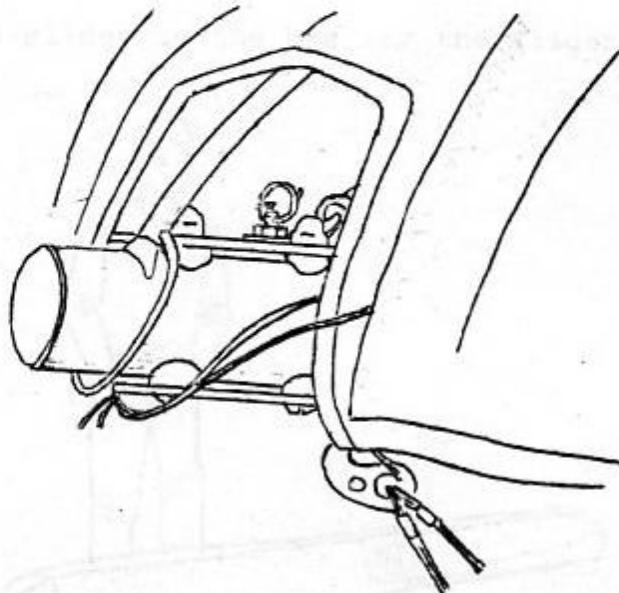

Fig. 3.2.26.
14. Set the glider nose into the wind, and pull the nose down. Grasp the string loop at the front of the nose batten and pull the forked batten-end up over until it sits on top of the keel tube (Fig. 3.2.26).